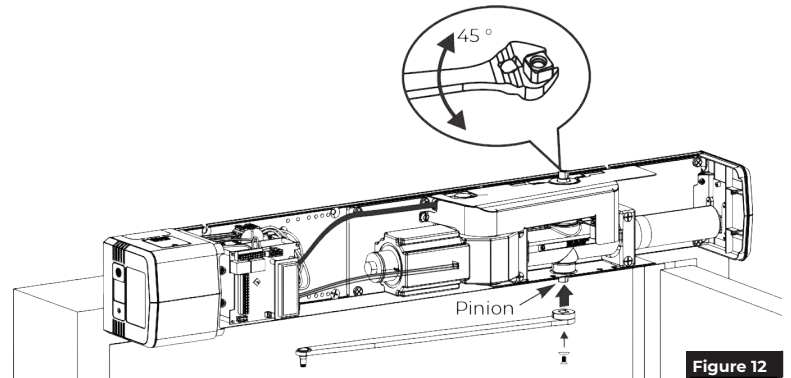

Figure 12
2. Using an adjustable wrench, rotate top pinion 45 degrees toward door hinge. You will feel resistance from spring. (Figure 12)
3. **While holding pinion at 45 degrees**, slide arm on bottom pinion parallel to frame as shown. (Figure 12)
4. Secure arm to pinion with 1/4-20 x 1/2" screw and countersunk patch washer. (Figure 12)